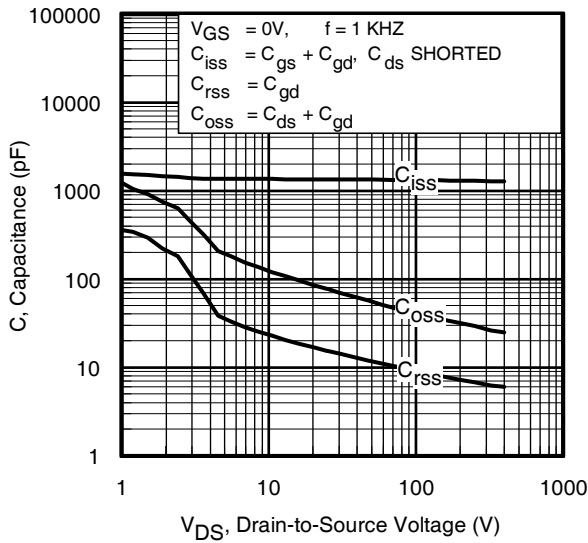

Fig 5. Typical Capacitance Vs. Drain-to-Source Voltage
| C_{iss} | Input Capacitance | — | 1346 | — | pF | $V_{GS} = 0V$ $V_{DS} = 25V$ $f = 1.0\text{KHz}$, See Fig. 5 $V_{GS} = 0V, V_{DS} = 1.0V, f = 1.0\text{MHz}$ $V_{GS} = 0V, V_{DS} = 400V, f = 1.0\text{MHz}$ $V_{GS} = 0V, V_{DS} = 0V$ to $400V$ ⑤ |